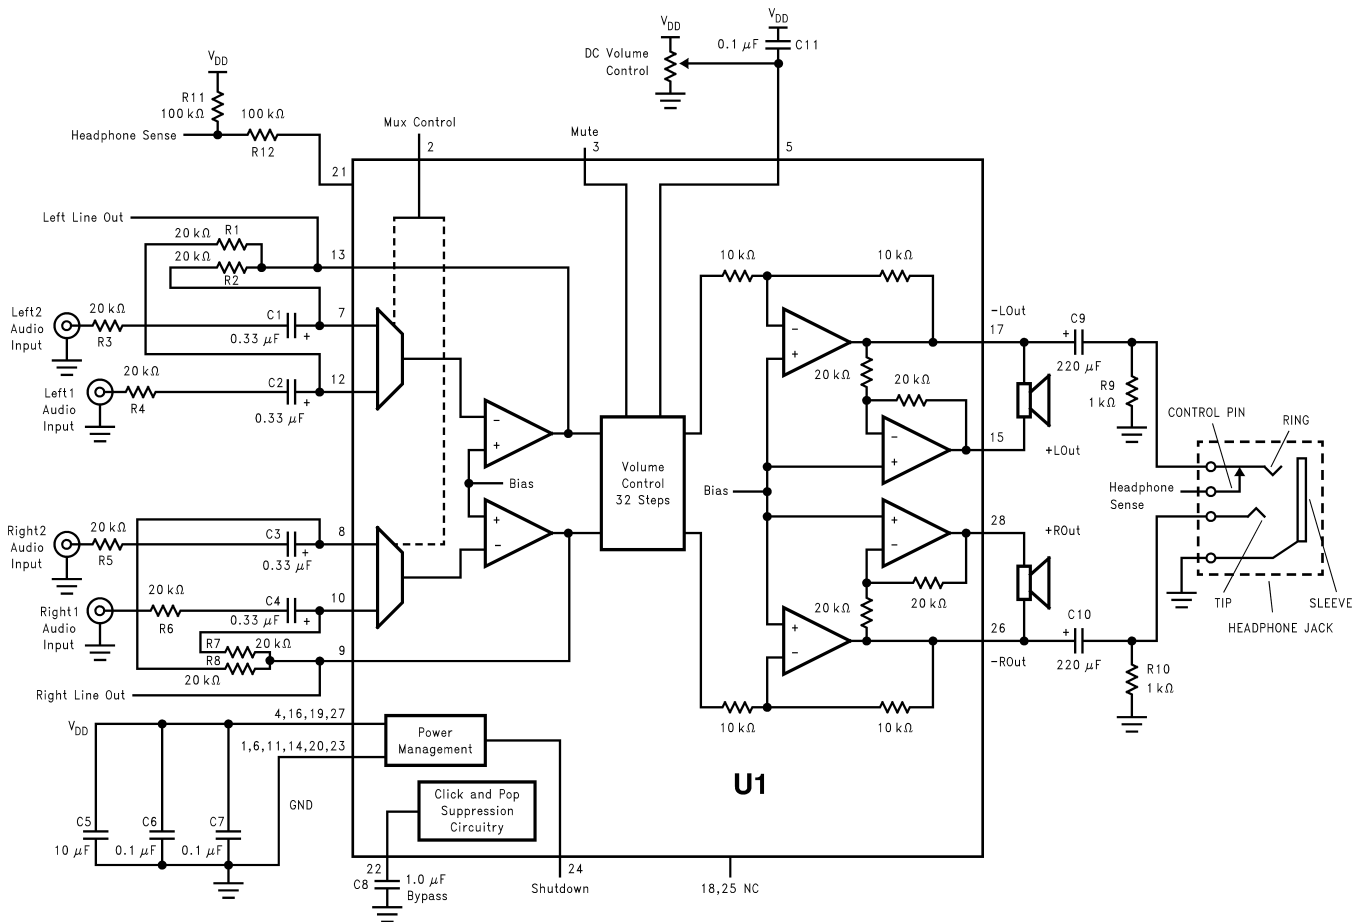

Figure 2. Typical Application Circuit (MH pinout)
- (1) All voltages are measured with respect to the ground pins, unless otherwise specified. All specifications are tested using the typical application as shown in Figure 2.
- (2) *Absolute Maximum Ratings* indicate limits beyond which damage to the device may occur. *Operating Ratings* indicate conditions for which the device is functional, but do not guarantee specific performance limits. *Electrical Characteristics* state DC and AC electrical specifications under particular test conditions which guarantee specific performance limits. This assumes that the device is within the Operating Ratings. Specifications are not guaranteed for parameters where no limit is given, however, the typical value is a good indication of device performance.
- (3) Typicals are measured at $25^\circ C$ and represent the parametric norm.
- (4) Datasheet min/max specification limits are guaranteed by design, test, or statistical analysis. Limits are guaranteed to National's AOQL (Average Outgoing Quality Level).
- (3) Typicals are measured at 25°C and represent the parametric norm.
- (3) Typical values are measured at $25^\circ C$ and represent the parametric norm.
- (5) When driving 3Ω loads from a 5V supply the LM4849MH exposed DAP must be soldered to the circuit board and forced-air cooled.
- (6) When driving 4Ω loads from a 5V supply the LM4849MH exposed DAP must be soldered to the circuit board.
As shown in Figure 2, the LM4849 output stage consists of two pairs of operational amplifiers, forming a two-channel (channel A and channel B) stereo amplifier. (Though the following discusses channel A, it applies equally to channel B.)
Figure 2 shows that the first amplifier's negative (-) output serves as the second amplifier's input. This results in both amplifiers producing signals identical in magnitude, but 180° out of phase. Taking advantage of this phase difference, a load is placed between -OUTA and +OUTA and driven differentially (commonly referred to as "bridge mode"). This results in a differential gain of
Amplifying the lowest audio frequencies requires a high value input coupling capacitor (0.33 μF in Figure 2). A high value capacitor can be expensive and may compromise space efficiency in portable designs. In many cases, however, the speakers used in portable systems, whether internal or external, have little ability to reproduce signals below 150Hz. Applications using speakers with this limited frequency response reap little improvement by using a large input capacitor.
As shown in Figure 2, the input resistors (R3, 4, 5, 6) and the input capacitors ($C_{\text{IN}} = 0.33\mu\text{F}$) produce a -6dB high pass filter cutoff frequency that is found using Equation (7).